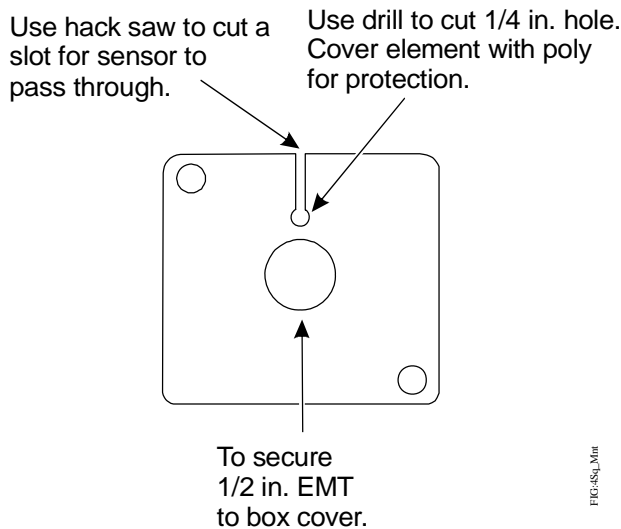

Figure 6: Details on 4-Square Cover Upper Mount with Center 1/2 in. Knockout.
10. Cut a notch in another 10.1 cm (4 in.) box cover. The notch is used to secure the upper end of the support assembly. Locate the notch so that you can position the capillary (whip) close to the support. See Figure 6.